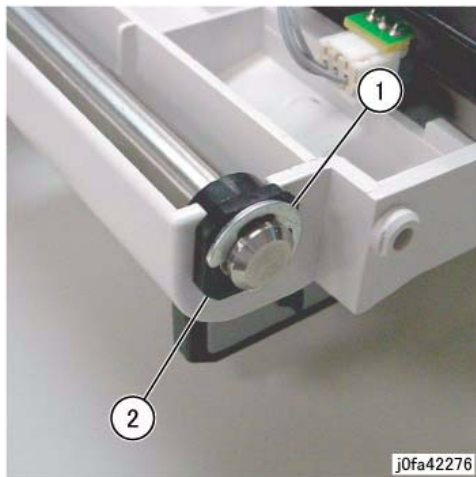

Figure 5 Removing the Bearing
- 8. Remove the Bearing (Figure 5):